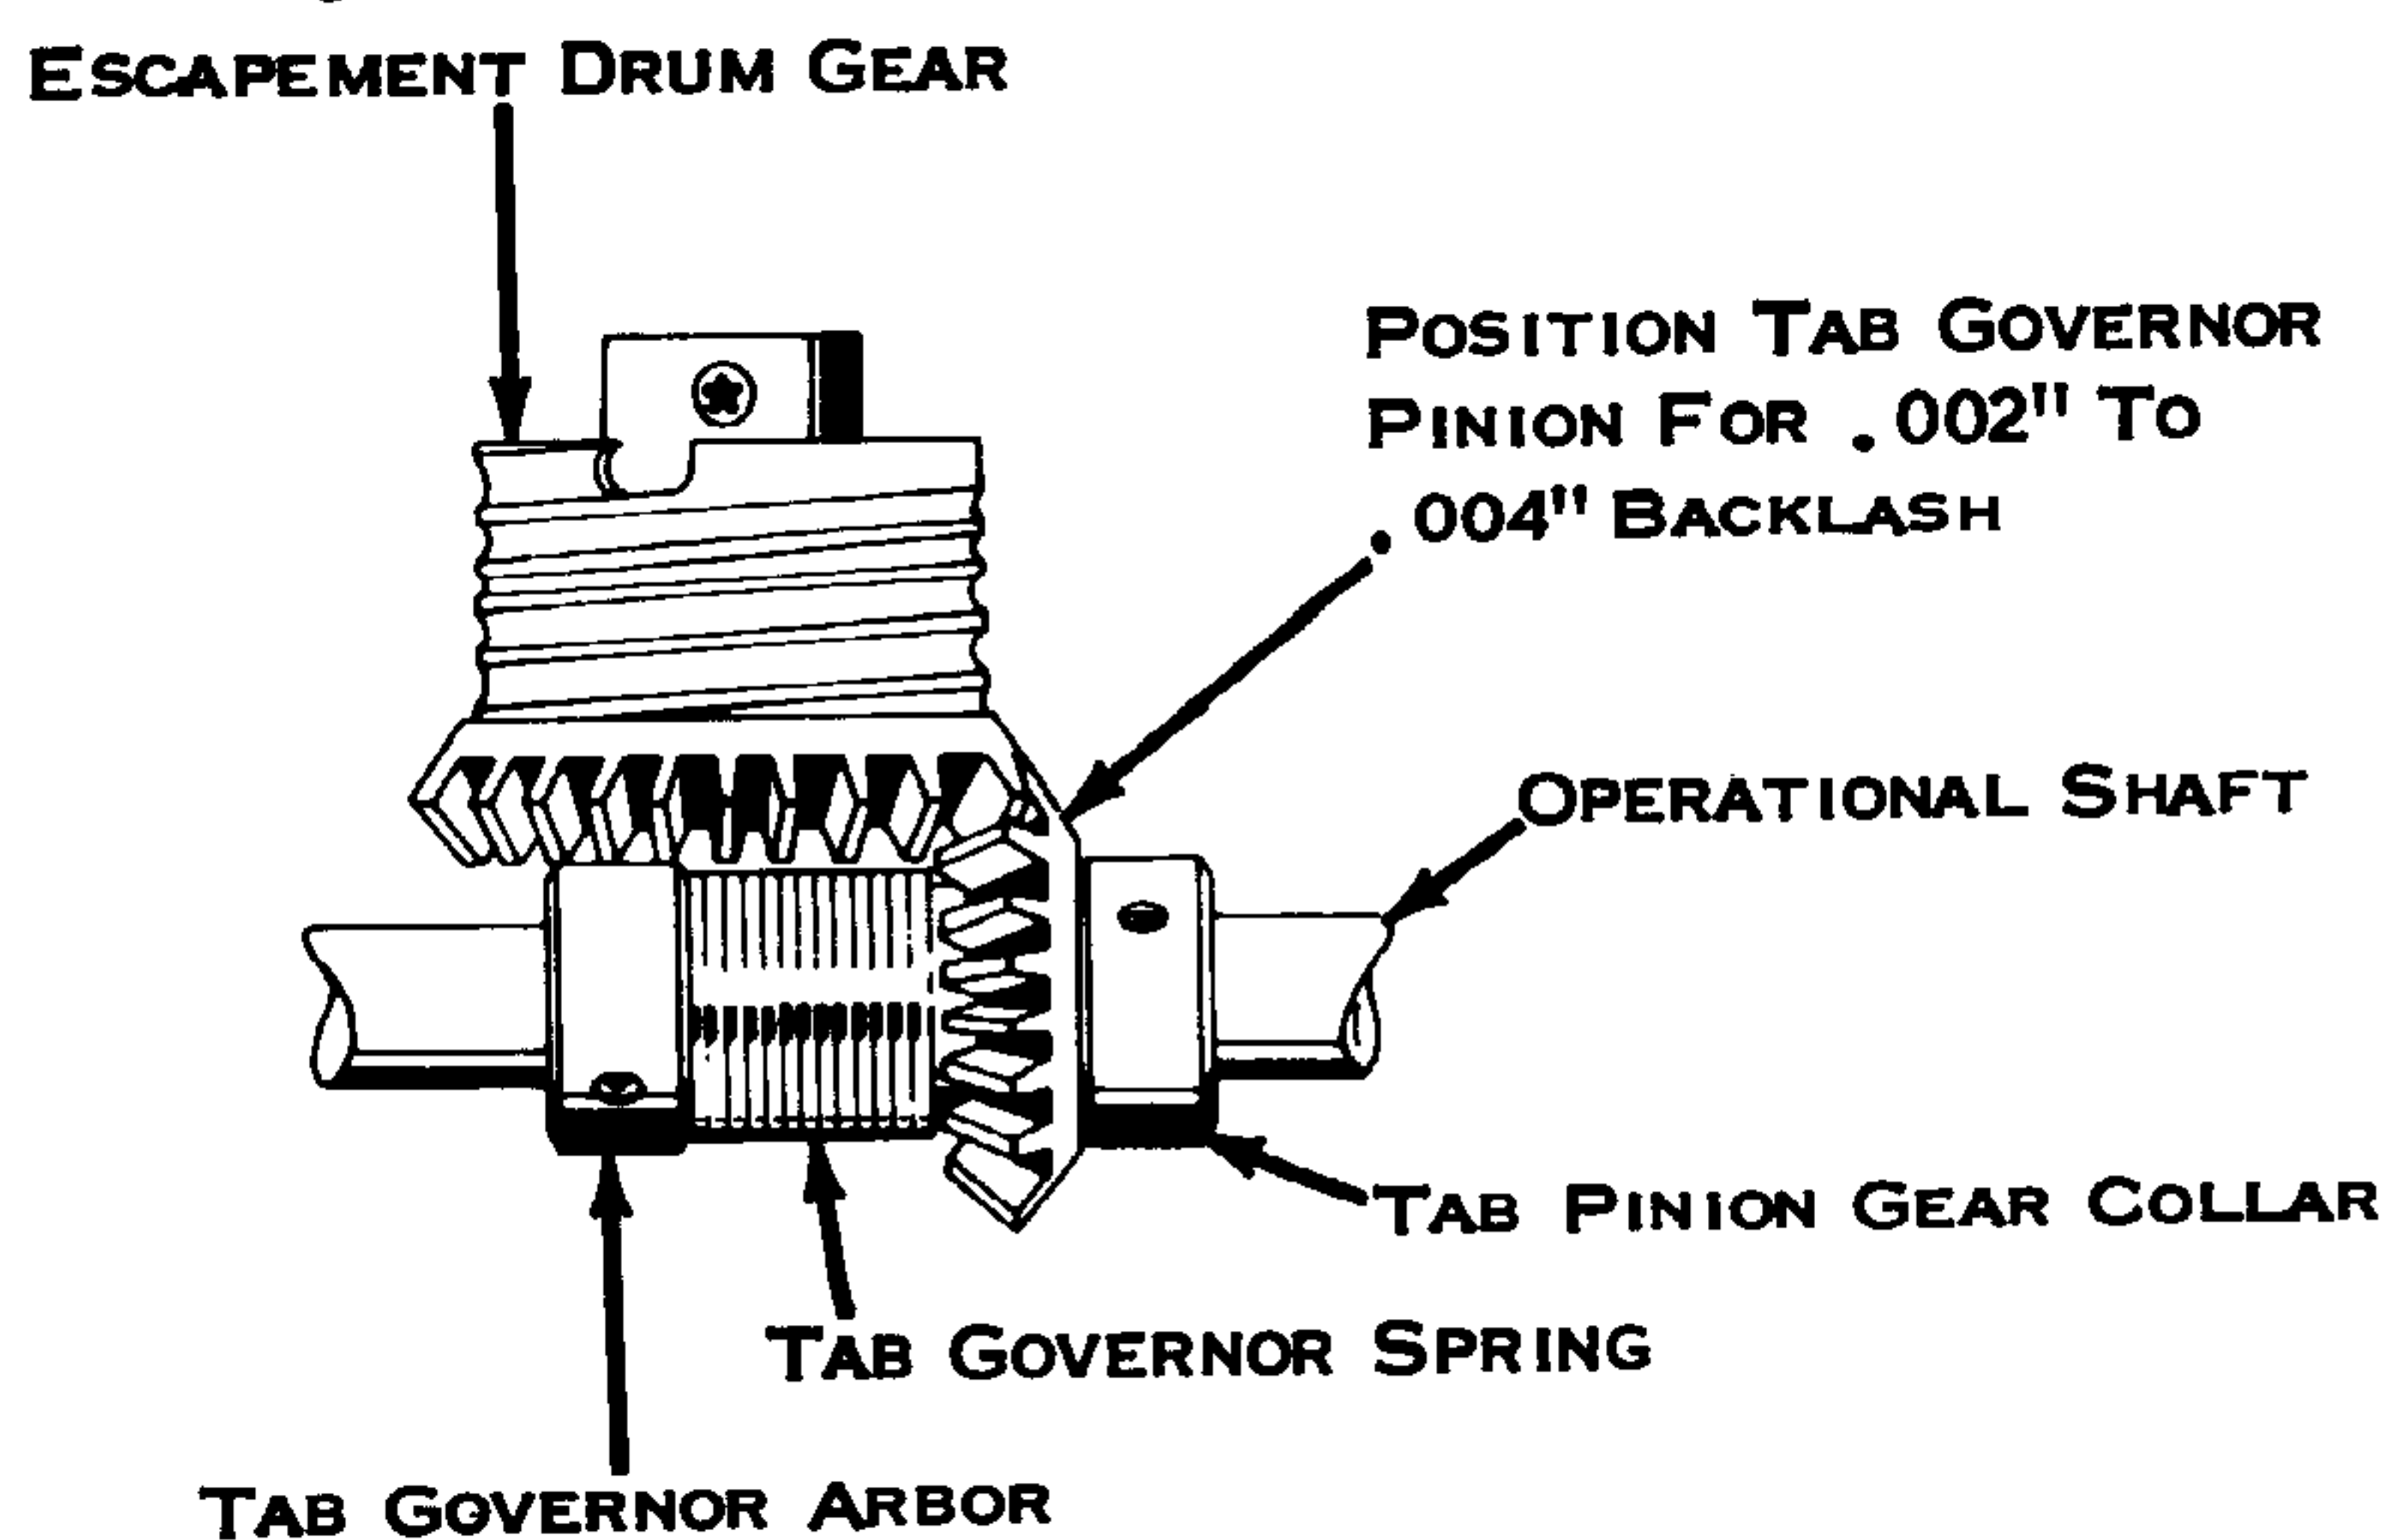

Figure 116. Tab Governor Pinion
2. Tab Governor Pinion (Fig. 116) - The tab governor collar should be positioned so that the tab governor pinion will have .002" to .004" backlash at the point of closest mesh with the escapement cord drum gear.